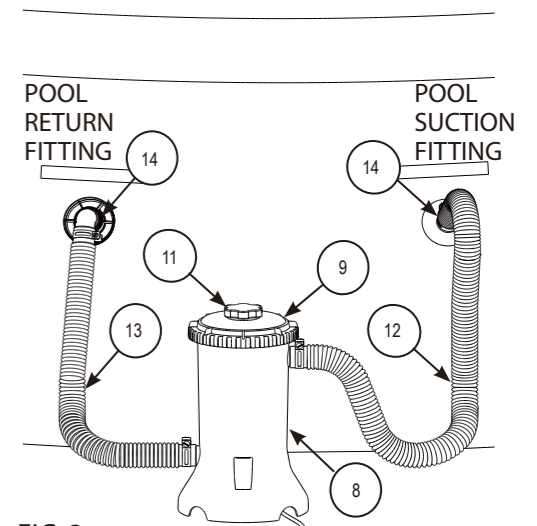

FIG. 3
B. Get the Suction and Return Hoses (12, 13), and remove two Hose Clamps (14), from the hardware bag. Loosen the hose clamps and slide them over one end of each hose. Lubricate O-rings (24) on the Filter Case (8) and Volute Housing liberally with petroleum jelly. Install one hose on the filter case suction inlet at the top, and one hose on the filter case return outlet at the base. Tighten both of the Hose Clamps (14).
C. Locate the Return Fitting assembly parts (21, 25-31). Lubricate the (black) RF Gasket (26) liberally with petroleum jelly and install it over the threads on the Return Fitting (25). Insert the Return Fitting (25) with the RF Gasket (26) through the pool return fitting hole in the wall from the inside of the pool, see Fig. 3 for correct location. Place the (white) RF Thrust Washer (27) over the Return Fitting and then thread the RF Nut (28) onto the fitting until it is hand tight. DO NOT over tighten the RF Nut or wrinkle the pool wall around the RF Thrust Washer (27) or the RF Gasket (26). Plug the pool's Return Fitting (25) with the RF Plug (21) from the inside of the pool. Set the RF Diverter Fitting (30) and RF Locking Ring (31) aside for later installation. Now locate the Pool Suction Fitting assembly parts (16-20). Lubricate the (black) SF Gasket (17) liberally with petroleum jelly and install it over the threads on the Suction Fitting (16). Insert the Suction Fitting (16) with SF Gasket (17) through the pool suction fitting hole in the wall from the inside of the pool. Place the (white) SF Thrust Washer (18) over the Suction Fitting and then thread the SF Nut (19) onto the fitting until it is hand tight. DO NOT over tighten the SF Nut or wrinkle the pool wall around the SF Thrust Washer (18) or the SF Gasket (17). Cap the pool's Suction Fitting (16) with the SF Water Cap (20). Only hand tighten the Water Cap (20). Start filling pool.
D. After the pool is filled, position the Filter Assembly between the two fittings on the side of the pool, about 6 inches out from the base. The suction hose (12), coming from the top of the filter case should be facing the right, and the return hose (13) coming from the pump, on the lower side of the case, should be facing the left; see Fig. 3.
- E. Slip both of the remaining Hose Clamps (14) over the ends of the two hoses. Lubricate O-rings (24) on the wall fittings liberally with petroleum jelly then connect the hoses to the Suction and Return wall fittings located on the side of the pool. The Pool Suction Fitting is on the right, and the return fitting is on the left, see FIG. 3. Secure both of the hoses in place by tightening the two Hose Clamps (14).
- F. Unscrew the Vent Screw (11) from the Seal Top (9) about 1-1/2 turns. NOTE: VENTING THE SYSTEM IS NECESSARY FOR AIR TO ESCAPE AS THE FILTER CASE FILLS WITH WATER.
- G. Remove the RF Plug (21) from the return fitting (25) on the inside of the pool. Also remove the SF Water Cap (20) from the Suction Fitting (16). This allows the filter system to fill with water. DO NOT discard the RF Plug (21) and the SF Water Cap (20). You will need them when you change the Filter Cartridge or service the pump. When full, water should be coming out of the groove of the vent screw. Hand-tighten the vent screw into the seal top until the O-Ring seals around the screw and no more water is escaping.
- H. At this point, the filter system should be water-tight. Check all hoses and fittings, as well as the vent screw, to make sure there is no leakage. If any leaks are found, see #4 in Trouble Shooting guide on page 8. Now place the RF Diverter Fitting (30) and the RF Locking Ring (31) on the Return Fitting (25).